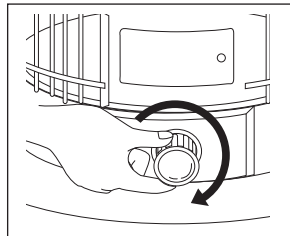

Fig.12
- ! 'Turn the wick adjuster knob clockwise until the wick has been raised to its maximum height.(Fig.12)